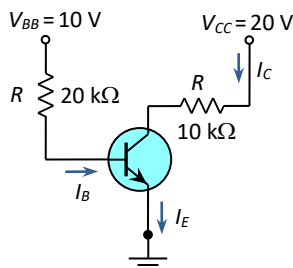

Fig. 4.41 : Circuit for Exercise no. 5
5. Repeat problem number 4 for the common-emitter circuit of Fig. 4.41. [Answer:]